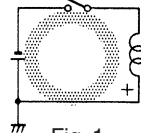

Fig. 1
- (1) Ground the positive side of the power supply (see Figs. 1 and 2).